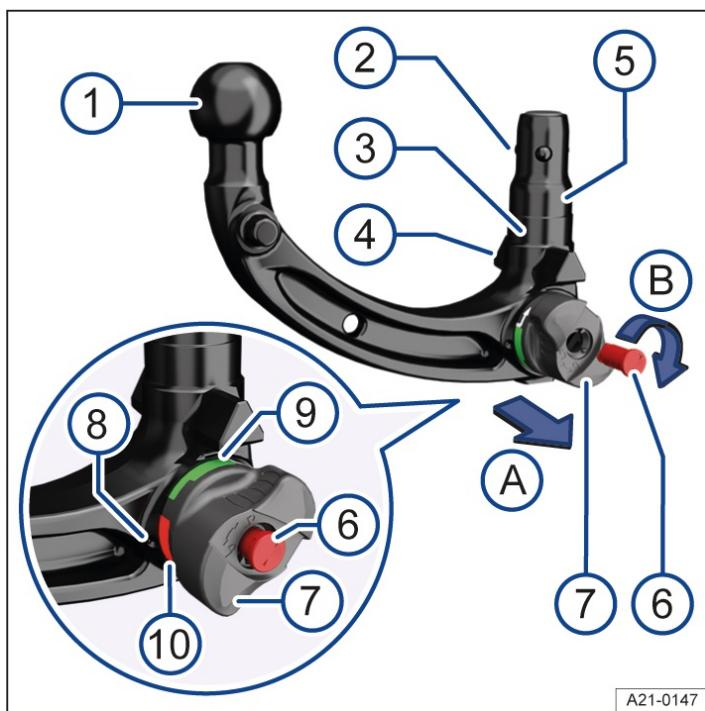

Fig. 1 Overview: removable ball coupling.
1. Before using the removable ball coupling for the first time, make a note of the number stamped on the key → Fig. 1 6. This can be used if you need to acquire a replacement key.